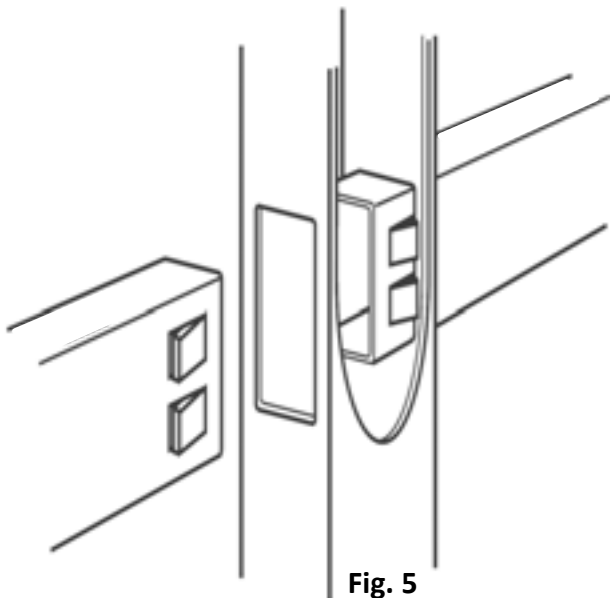

Fig. 5
Step 3. Slide the rail into the bottom hole in the post (Fig. 5). Proceeding down the fence line, place the next rail into the next hole and insert the bottom and top rail into each post.